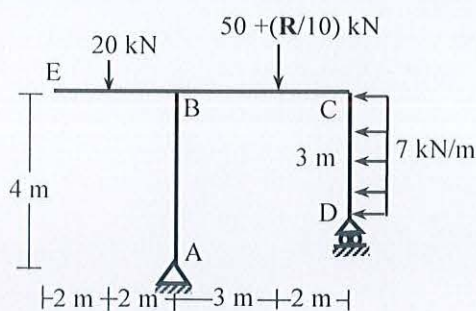

Fig.2
2. Draw the shear force and bending moment diagram for the frame shown in *Fig.2*, where **R**= last two digits of your student No. [15]